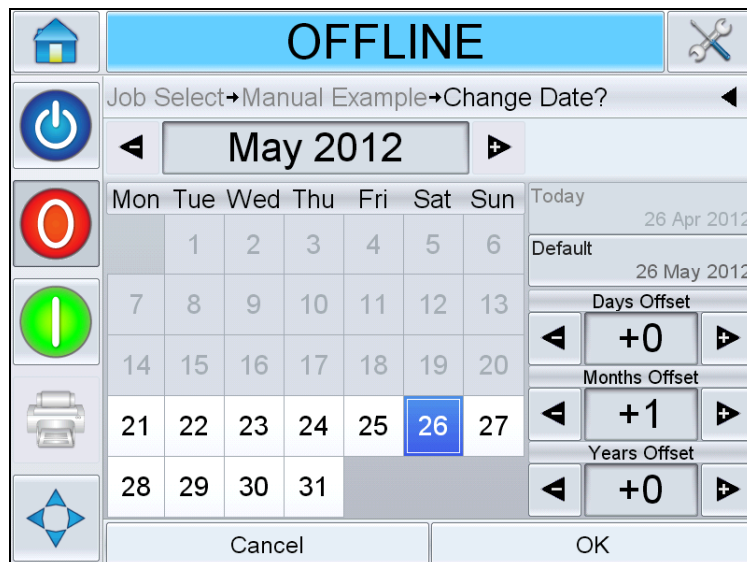

Figure 6-5: Calendar Page
- d. Touch the data window to display the Calendar page (see Figure 6-5).